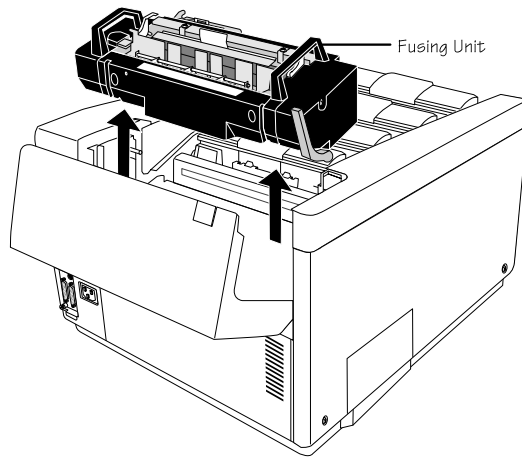

Fig. 6.6 Remove the Fuser Unit
7. Grasp the fuser unit by the two handles, one at each end (fig. 6.6), and lift it up and out of the printer.